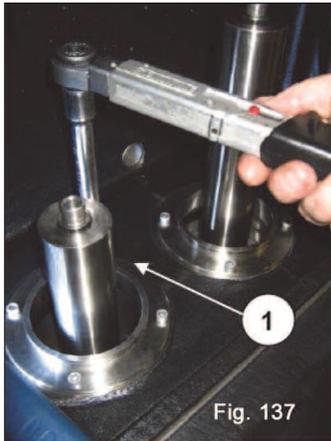

Fig. 137
Tighten the (4) M6 screws (1, fig. 137) using a torque wrench, calibrating as described in Section 3.